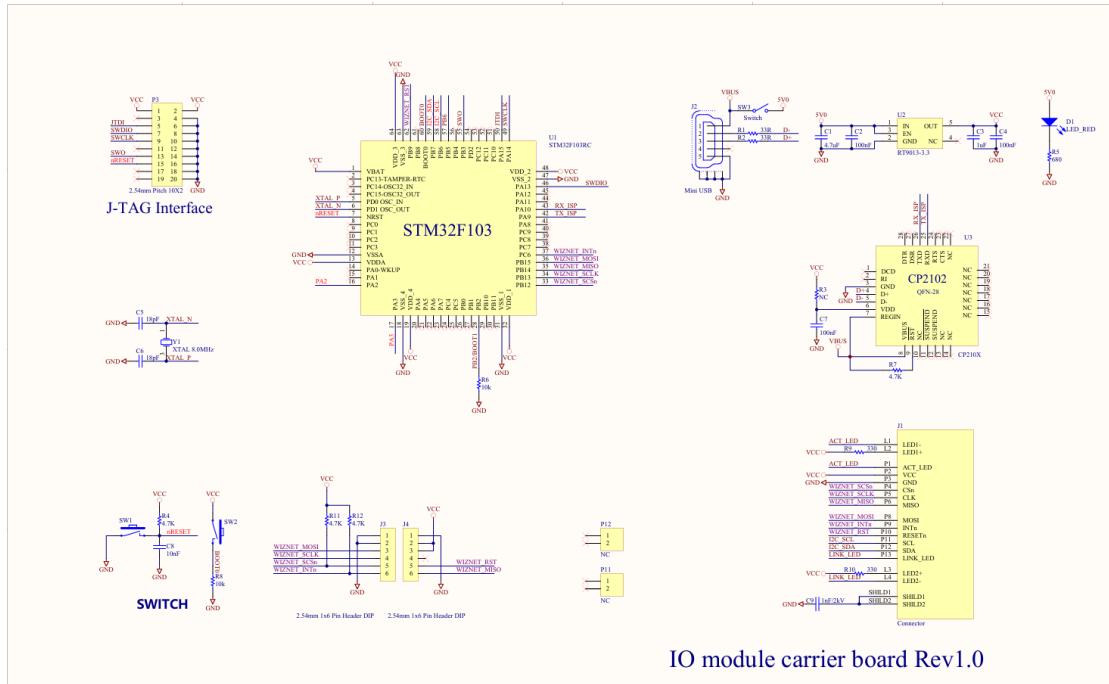

Figure 2-4 Reference design schematic diagram of the peripheral circuit of WIZ-IP51S
- ◆ The reference design schematic diagram of the peripheral circuits for WIZ-IP51S is shown in Figure 2-4.